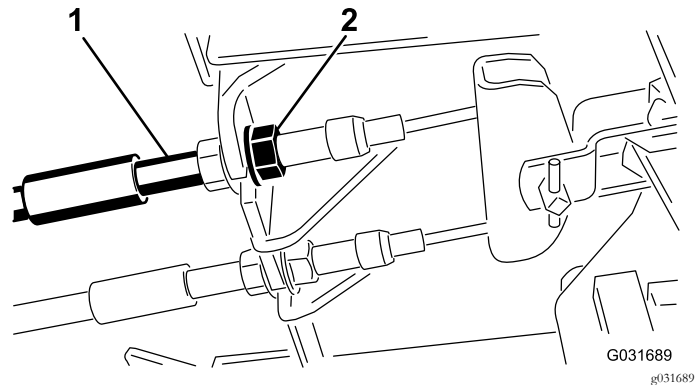

**Figure 54**
1. To reduce free travel of the brake pedals, tighten the brakes by loosening the front nut on the threaded end of the brake cable (Figure 54).